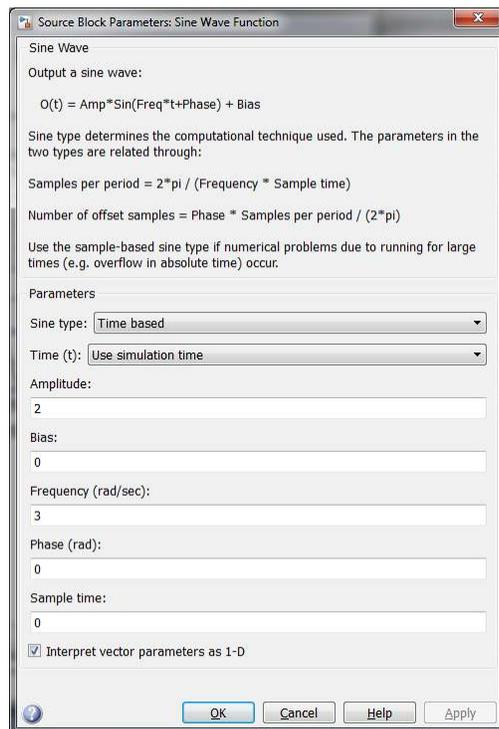

Figure 1.8: Parameters for the **Sine Wave** block. Select the amplitude and frequency desired.
- Double-click the **Sine Wave** block and change the frequency to 3 rad/s and the amplitude to 2. [See Figure 1.8] Set the time dropdown menu to **Use Simulation Time**.